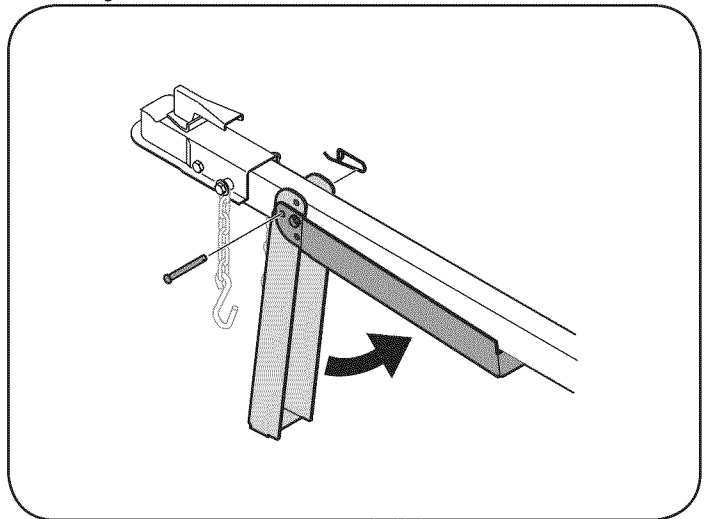

Figure 4-5
3. Support the tongue and pivot the jack stand up against the tongue. See Figure 4-5.
4. Secure the jack with the spring clip and clevis pin previously removed. See Figure 4-5.